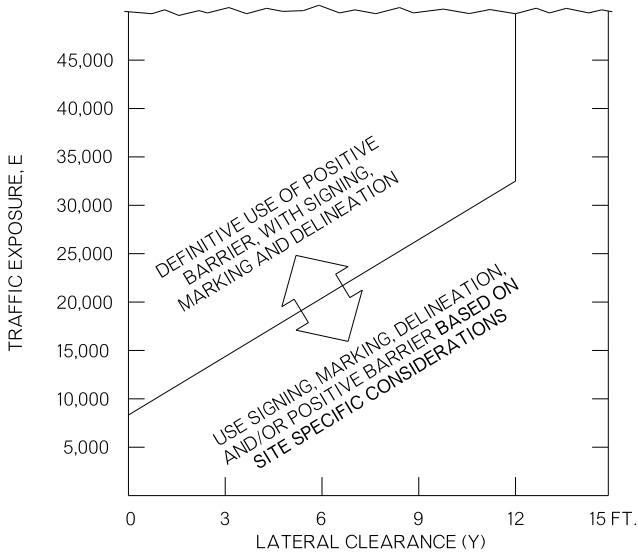

FIGURE-1: CONDITIONS INDICATING THE NEED FOR POSITIVE BARRIER
- THE CONDITIONS FOR INDICATING THE USE OF POSITIVE OR PROTECTIVE BARRIERS ARE GIVEN BY FIGURE-1.
①	W8-11 "UNEVEN LANES" SIGNS.
②	W8-17 AND W8-17P "SHOULDER DROP-OFF" SIGNS PLUS APPROVED CHANNELIZING DEVICES.
③	W8-11 "UNEVEN LANES" AND W8-17 "SHOULDER DROP-OFF" SIGNS PLUS DRUMS. WHERE RESTRICTED SPACE PRECLUDES THE USE OF DRUMS, USE AN APPROVED CHANNELIZING DEVICE. AN EDGE FILL MAY BE PROVIDED TO CHANGE THE EDGE SLOPE TO THAT OF THE PREFERABLE EDGE CONDITION A.
④	SEE (FIGURE-1). WHERE POSITIVE BARRIER MAY OR MAY NOT BE USED, THE TREATMENT SHOWN ABOVE FOR ZONE ③ MAY BE USED AFTER CONSIDERATION OF OTHER APPLICABLE FACTORS.